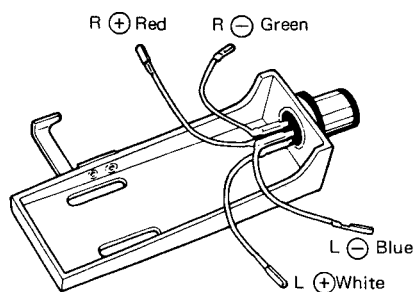

Fig. 9
- (1) Attach the cartridge to the head shell with cartridge fixing screws.
- (2) The polarities and L, R channel of the lead wire of the head shell are shown in Fig. 9. The connection should be done according to the terminal indication of the cartridge.